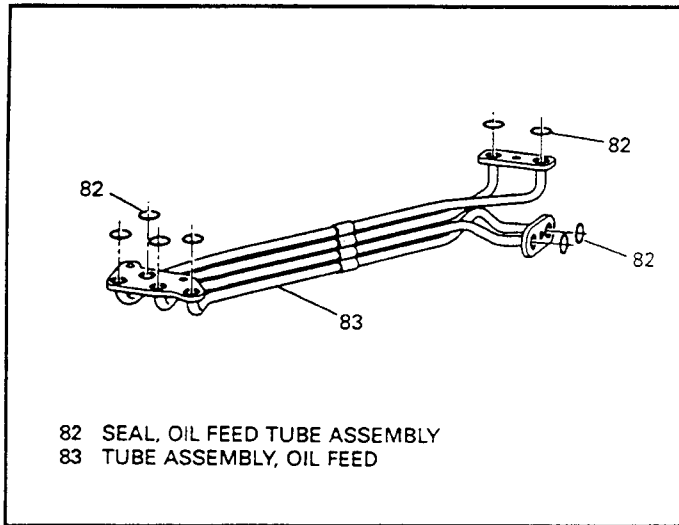

Figure 194
13. The oil feed pipe "O" rings are glued into place during initial assembly. Be sure to thoroughly clean any residual glue from the oil feed pipe pockets (See Figure 194).
14. Install new feed pipe "O" rings into the feed pipe pockets and retain with "Trans-Jel", as shown in Figure 194.